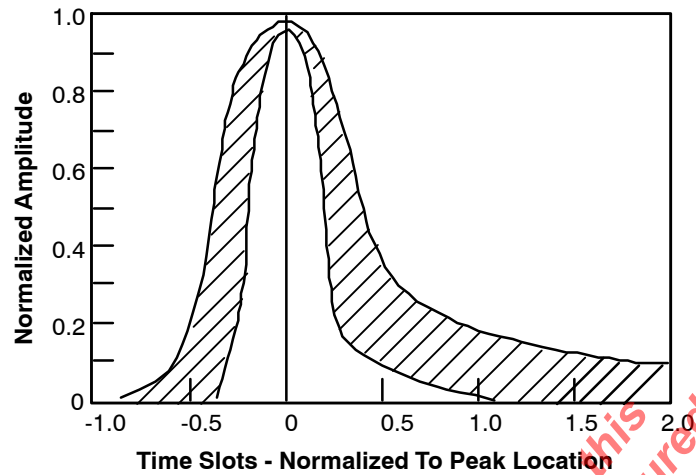
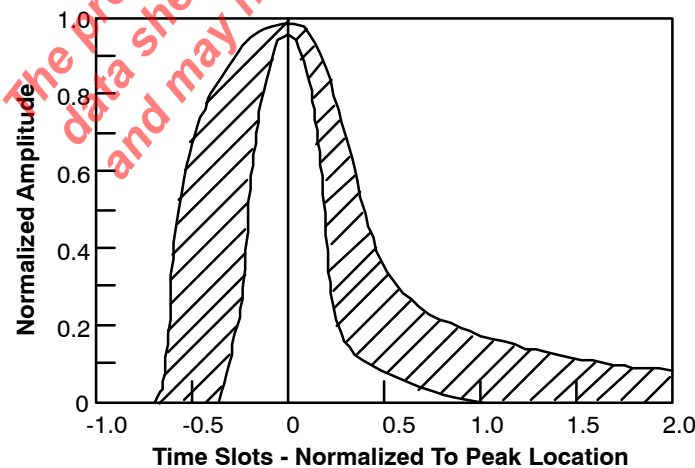

Figure 4. DSX-3 Isolated Pulse Template for ACCUNET T45 Standards
Figure 5. DSX-3 Isolated Pulse Template for G.703 Standards
requirements exist: the ACCUNET T45 pulse template (see *Table 2* and *Figure 4*) and the G.703 pulse template (see *Table 3* and *Figure 5*). *Table 2* and *Table 3* give the associated boundary equations for the templates. The XRT7295AT correctly decodes any transmitted signal that meets one of these templates at the cross-connect.
- ¹ The pulse template proposed by G.703 standards is shown in *Figure 5* and specified in *Table 3*. The proposed G.703 standards further state that the voltage in a time slot containing a 0 must not exceed 5% of the peak pulse amplitude, except for the residue of preceding pulses.
Table 2. DSX-3 Pulse Template Boundaries for ACCUNET T45 Standards (See *Figure 4.*)
Table 3. DSX-3 Pulse Template Boundaries for G.703 Standards (See Figure 5)